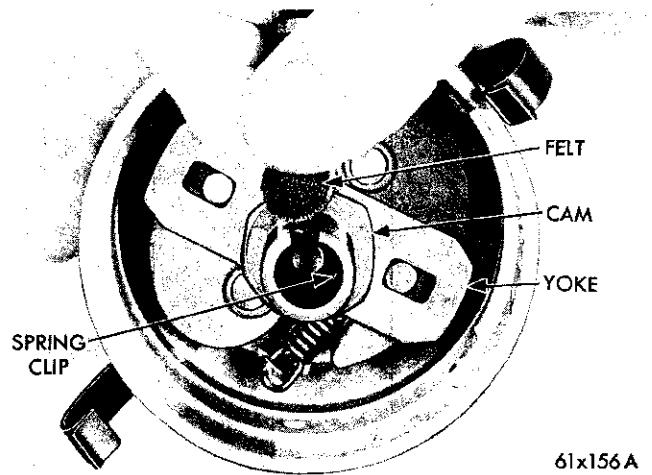

Fig. 4—Removing the Distributor Cam Felt Wick
(2) Remove the retainer attaching the vacuum advance unit to the breaker plate advance arm.
(3) Remove the two screws and lockwashers attaching the vacuum advance unit to the distributor housing and remove the unit.
(4) Remove the primary lead wire and rubber grommet as an assembly. Push the grommet towards the inside of distributor to remove. Do not pull on the wire.
(5) Remove the two screws and lockwashers attaching the breaker plate to the housing and lift out the breaker plate, points and condenser as an assembly.
(6) Remove the oil wick from the distributor cam (Fig. 4). Remove the spring clip from the oil well in the cam and remove the cam and yoke assembly and spacer.